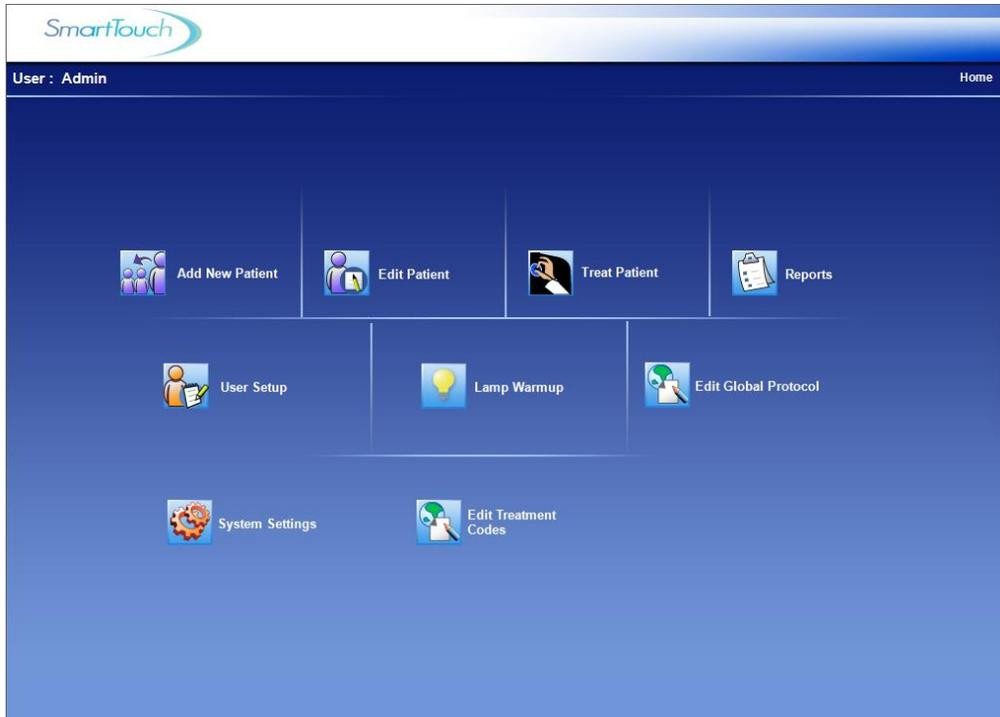

Figure 11 STUV Main Menu Screen
5. Retype the new password, and then tap **Save** once. The loading screen will pop up and the computer will connect to each of the devices. After connecting, the Main Menu screen will be displayed (See Figure 11). System administrator setup is complete.
1. Logon to the SmartTouch™ control system and tap the **User Setup** button once from the Main Menu (See Figure 11). The **Select a Username** screen will be displayed (See Figure 28).
4. Retype the new password, and then tap **Save** once. The Main Menu screen will be displayed (See Figure 11), the user password will be changed, and logon is complete.
2. Type the chosen user password in the **Password** field using the keyboard at the bottom of the display, and then tap the **Logon** button once. The Main Menu screen will appear (See Figure 11), indicating that the user logon is complete.